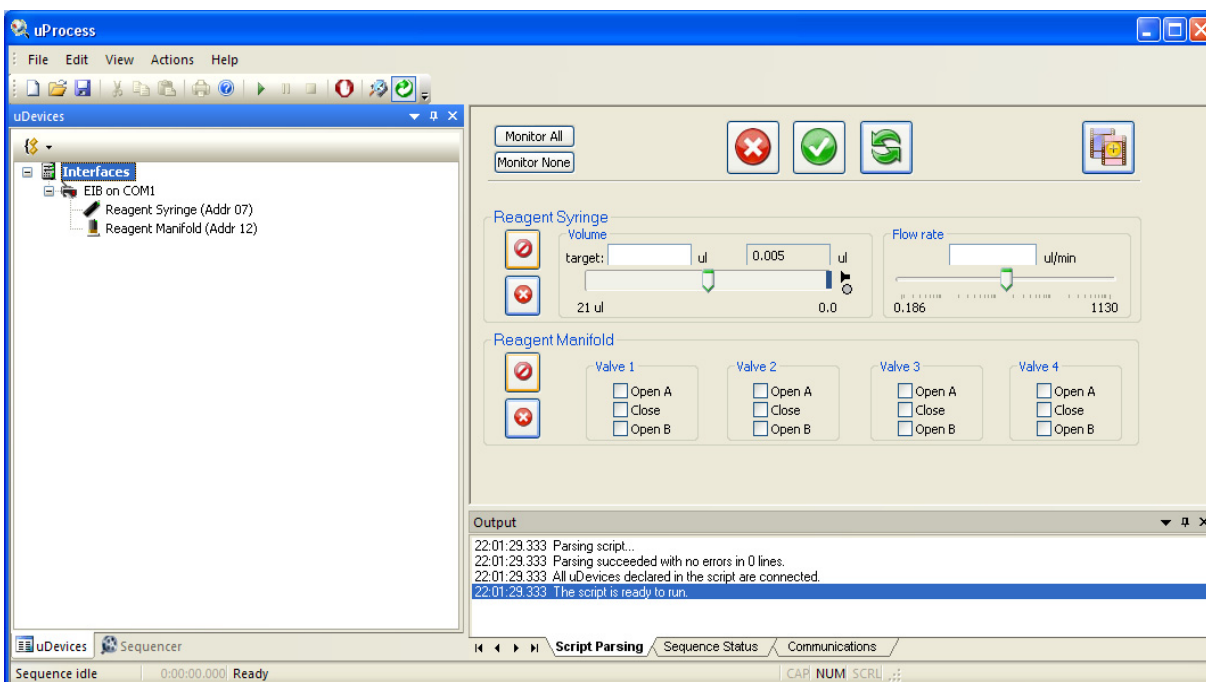

Figure 27. Installed Devices Shown in Device Control Overview Window.
1. In the *uDevices Window* select Interfaces to display the *Device Control Overview Window* (Figure 27).